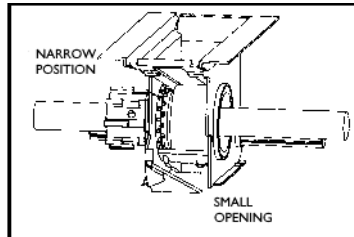

Fig. 3
- Narrow position with small teeth for small seeds (Fig. 3).
- Adjust the opening of the lower shut-off gate of the dispenser to adapt it to the seed size (Fig. 3, 4 and 5).